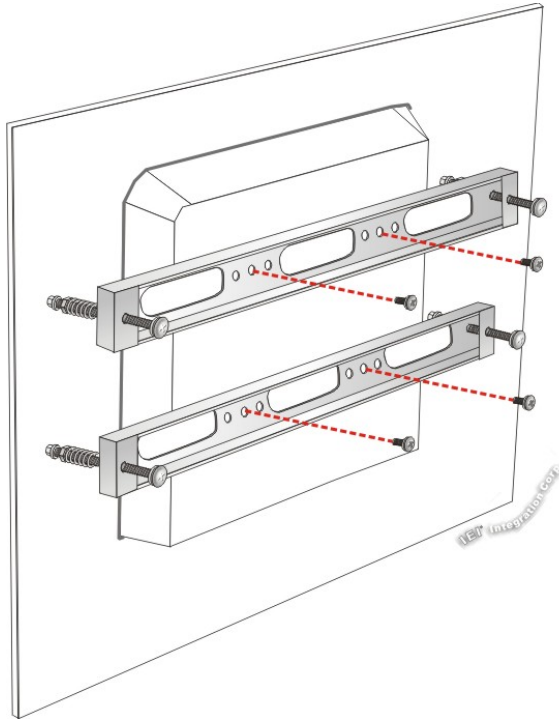

Figure 3-14: Securing Panel Mounting Brackets
Step 7: Secure the two panel mounting brackets to the rear of the panel PC by inserting the four retention screws into the VESA mounting holes and tightening them (Figure 3-14).